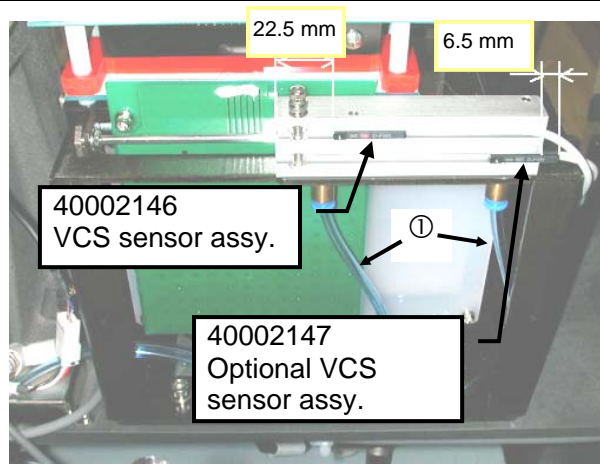

Figure 8-2-1
- 2) Disconnect the air tubes ① and detach the VCS sensor assemblies (see Figure 8-2-1).
- 1) Assemble the VCS sensor (or the optional VCS sensor) so that the distance between the left end surface of the air cylinder and the front end surface of the sensor is 22.5 mm (or the rear end surface of the sensor protrudes from the right end surface of the air cylinder by 6.5 mm) (see Figure 8-2-1). After assembling, check to make sure that the sensor performs detection correctly.